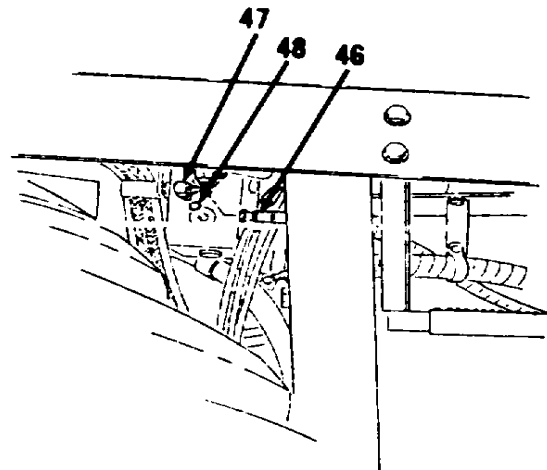
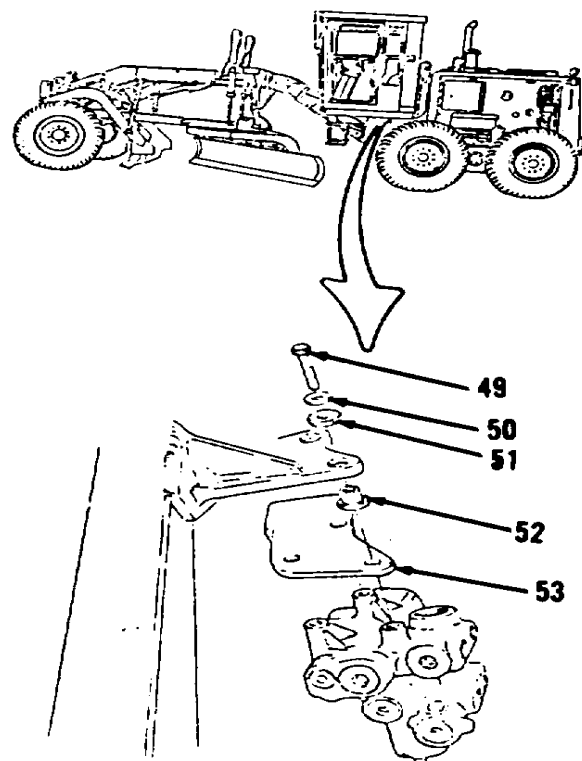

Figure 10-164.
Figure 10-165.
30. Remove hose assembly (46), elbow (47) and preformed packing (48, Figure 10-164) from block.
31. Remove three bolts (49), washers (50 and 51) and mountings (52) from plate (53, Figure 10-165).
32. Remove plate (53).
1. Install plate (53, Figure 10-165).
2. Install three mountings (52), washers (51 and 50) and bolts (49) on plate (53).
3. Install new preformed packing (48), elbow (47) and hose assembly (46, Figure 10-164) on block.